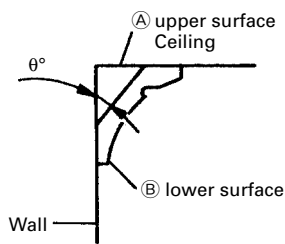
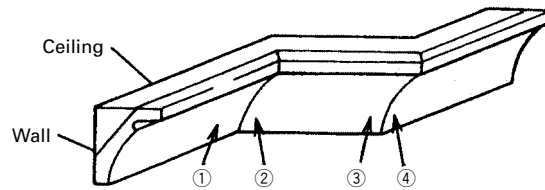
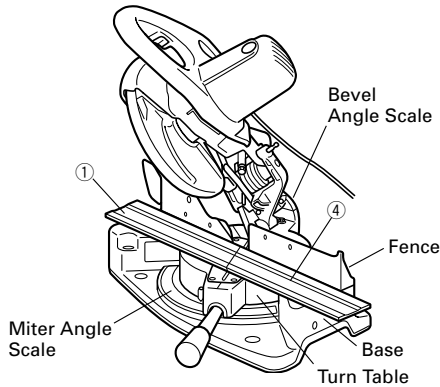
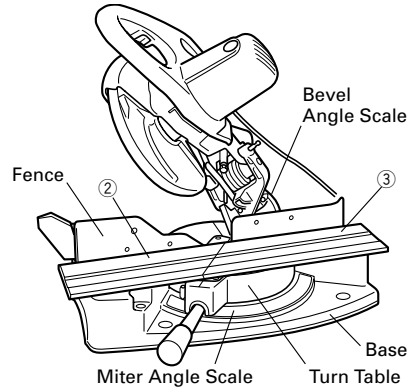

Fig. 20
Fig. 21
Fig. 22
Fig. 24
Fig. 21 shows two common crown molding types having angles of ( $\theta$ )  $38^\circ$  and  $45^\circ$ .
For the typical crown molding fittings, see Fig. 21.
### (1) Setting to cut crown moldings at positions ① and ④ in Fig. 21 (see Fig. 22):
- ① Turn the table to the right and set the Miter Angle as follows:
- ② Tilt the head to the left and set the Bevel Angle as follows:
- ③ Position the crown molding so that the upper surface (A in Fig. 20) contacts the fence as indicated in Fig. 24.
## (2) Setting to cut crown moldings at positions ② and ③ in Fig. 21 (see Fig. 24):
- ① Turn the table to the left and set the Miter Angle as follows:
- ③ Position the crown molding so that the lower surface (B in Fig. 20) contacts the fence as in Fig. 25.